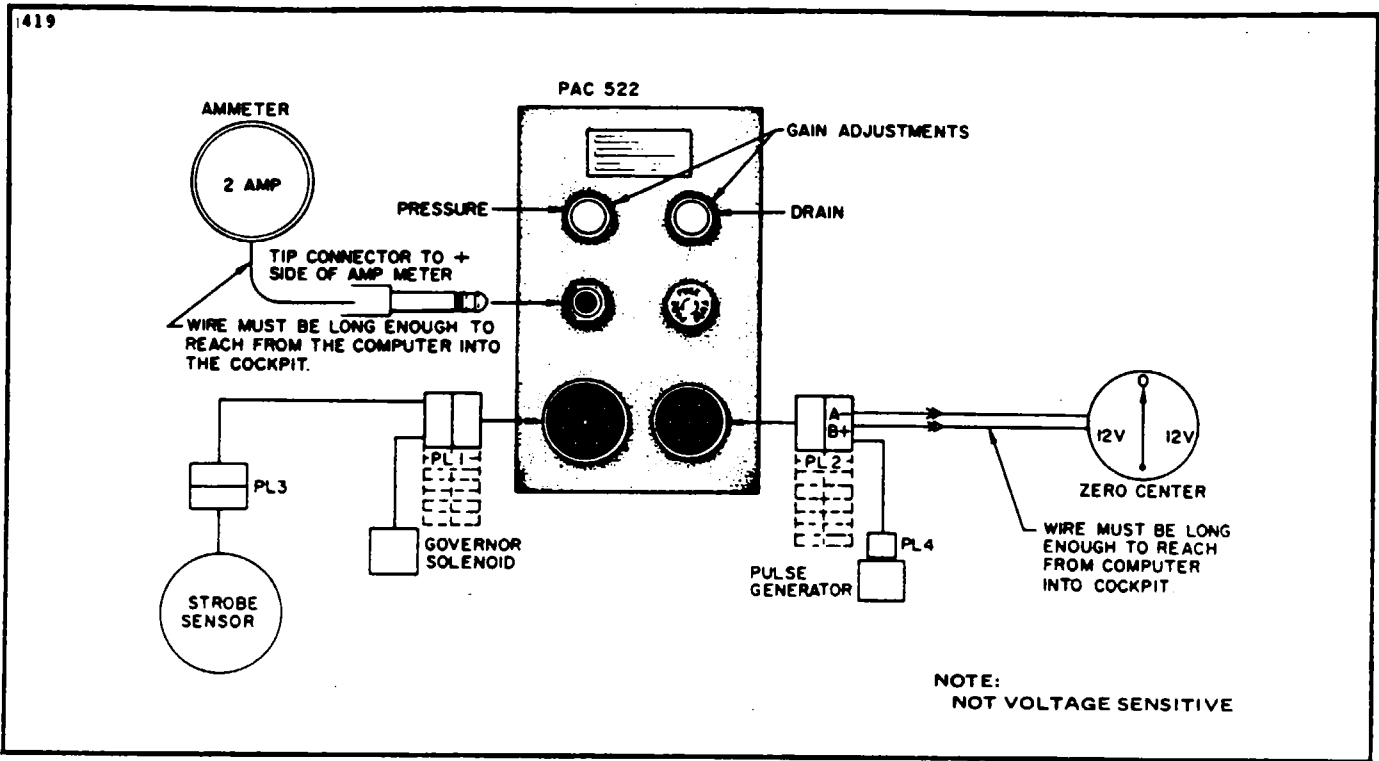

Figure 14-51. Fabricated Test Box
- (a) If the system operates in the manual mode but not in the phase mode, listen to the computer for an audible relay click when the system is switched from the manual mode to phase mode. The relay is on the bottom deck of the computer assembly. The use of a 2 amp meter and test plug will simplify this check. (Refer to Figure 14-51.)